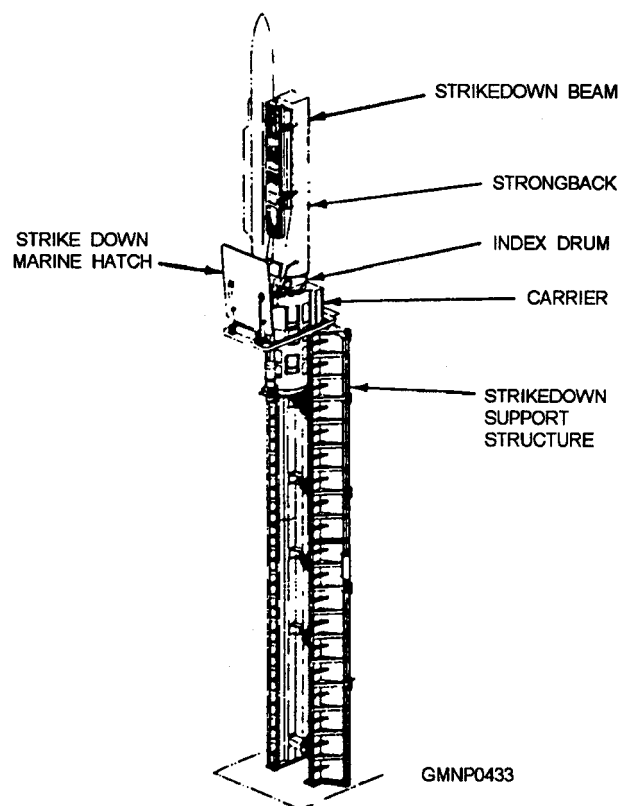
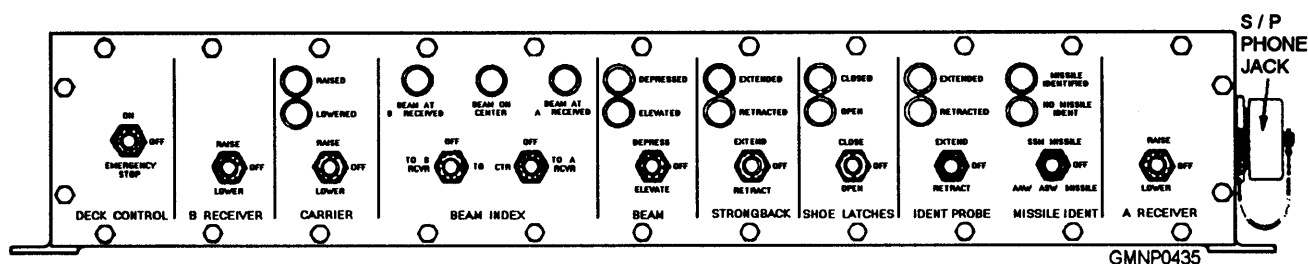

Figure 8-7.—Mk 26 GMLS strikedown/intertransfer mechanism.
Figure 8-9.—On-deck strikedown control panel; front panel.
The strikedown/intertransfer mechanism moves the missiles between the deck and magazine and from RSR to RSR. The mechanism consists of six major assemblies, as shown in figure 8-7.
The strikedown marine hatch (refer to fig. 8-7) is the last major component of the strikedown/intertransfer mechanism. The hatch is hydraulically opened and closed by the MCC operator. A strikedown control panel is mounted to the underside of the hatch. When the hatch is opened for strikedown operations, the panel is exposed. This panel permits local control of the strikedown operations performed on deck. Note the functions of the switches and lamps of the panel, as shown in figure 8-9.
**ON-DECK OPERATIONS.—** The transfer dolly arrives on deck and is pushed onto the AAW dolly deck track. The missile is aligned and secured over the receiver beam. The DCO operator raises the carrier from the magazine. After the strikedown beam reaches the strikedown level (raised position), the index drum is rotated 80° from center to the selected receiver position. The strikedown beam is then depressed to its horizontal position over the missile. Identification then takes place. The DCO visually identifies the missile as an AAW or ASW type. A missile identification switch on the panel is placed in the AAW/ASW MISSILE position. The strongback will extend its full distance in this case. The other two switch positions (fig. 8-9), the SSM MISSILE and OFF positions, limit strongback extend-distance to accommodate the larger diameter SSM round. Both positions are inactive at that time.